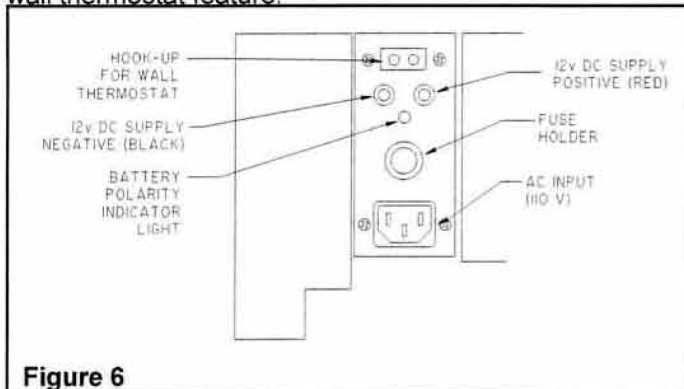

Figure 6
1. The following is a step by step procedure for installing the optional wall thermostat. Note connection terminals on left side of unit at rear (see **Figure 6**). Use 18/2 thermostat wire for the installation.
- b. Hook up thermostat wires to terminals (see **Fig.6**).